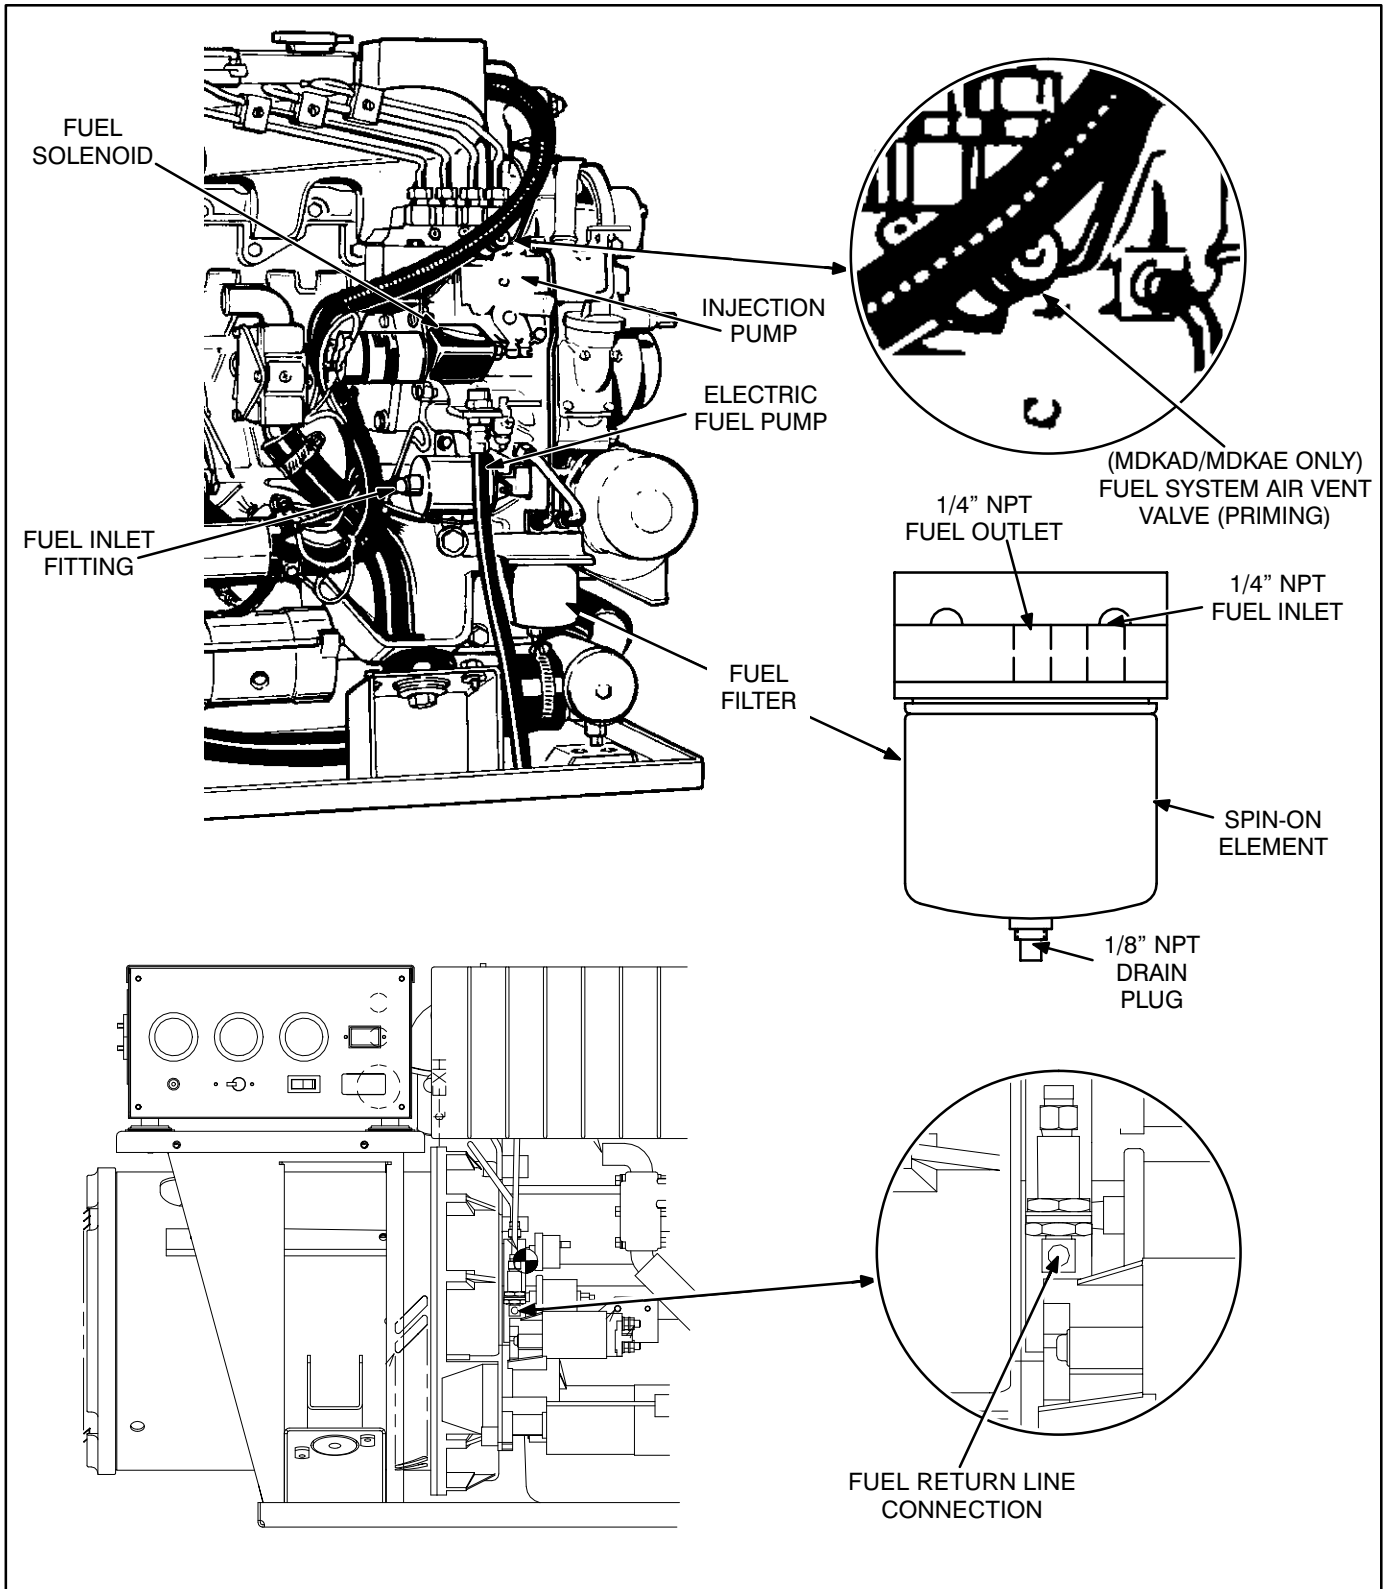

FIGURE 10. FUEL SYSTEM PRIME AND FILTER COMPONENTS (MDKAD SHOWN)
3. **(MDKAD/MDKAE only:)** Open the air vent valve by turning it counterclockwise until it is completely open. See Figure 10.
1. Open the drain plug on the fuel filter assembly (Figure 10). Collect water and fuel in a suitable container and dispose of it properly.
1. Loosen the filter drain plug. Collect fuel in a suitable container and dispose of properly. See Figure 10.